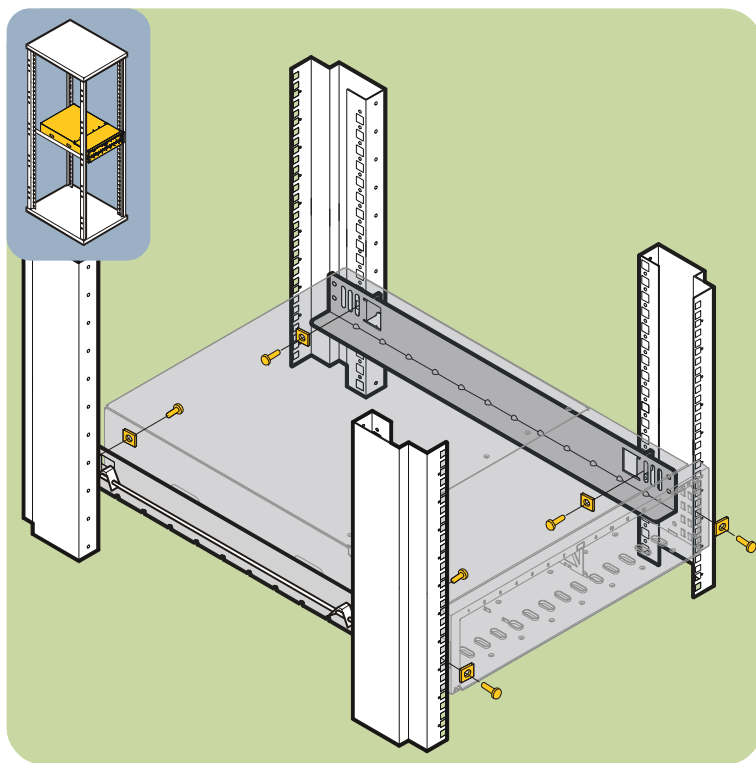

Fig. 30. Compaq 9000 Installation Overview
2. Study the installation overview (see Fig. 30).